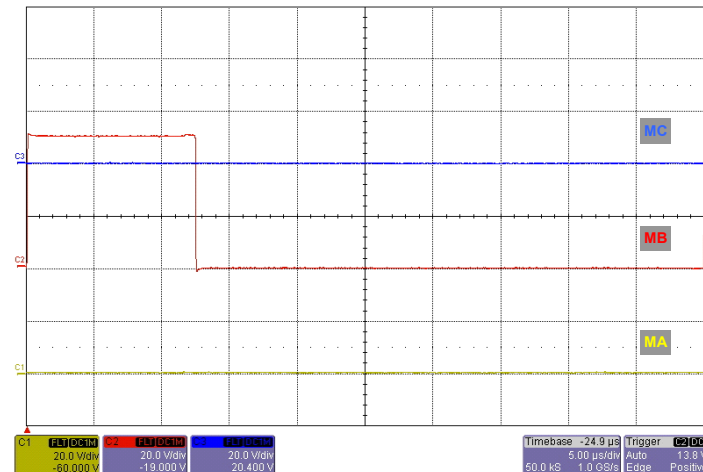

Figure 6. Waveforms on MA, MB, and MC with HB Grounded
2. While the HB input is grounded, observe the following waveforms on the MA, MB, and MC terminals. As the example in Figure 6 shows, there should be no switching disturbances on MC and MA.